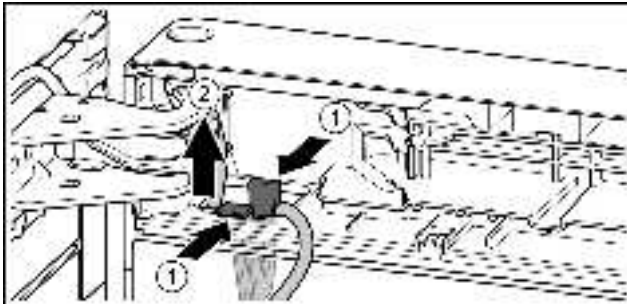

Fig. 20
- Press the tab. Fig. 20 (1)
- Remove the cable holder with its cable. Fig. 20 (2)